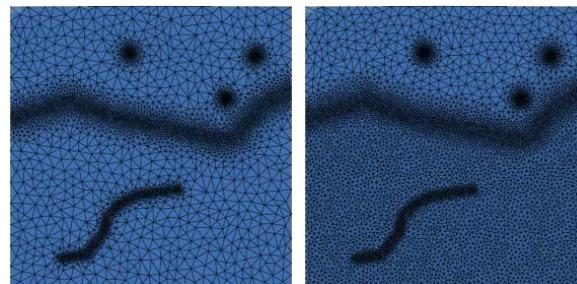

Figure 7.14 Meshes generated with the Triangle algorithm.
- Leave the dialog and use the **Refinement Selection** tool to select the edge between the two polygons in the **Supermesh** view. Clicking on **Generate Mesh** should now produce a finite-element mesh that looks similar to the one on the left in figure 7.14.
For every supermesh polygon the mesh density can be defined separately while the total number of elements remains constant. Go to the **Supermesh** view and activate the tool **Edit Meshing Density** in the **Mesh-Generator** toolbar. FEFLOW now automatically selects a polygon for which a meshing-density factor can be specified. Start with the proposed polygon and enter a factor of **10**. After hitting **<Enter>** the number in the input field turns red, indicating that the meshing density for this polygon has been modified. Proceed with the second polygon. Select it with a single click and enter a density factor of **2** in the input field. Hit **<Enter>** again and start the mesh generation with a click on **Generate Mesh**. The right mesh in figure 7.14 shows the resulting finite-element mesh. To reset the meshing density factors to the default value of 1, click on **Reset Meshing Density**.